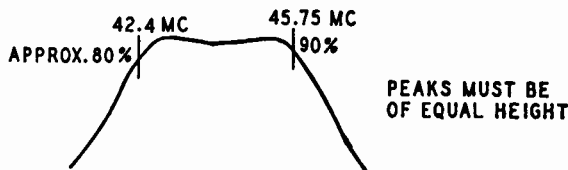

Fig. 4—2nd Pix I-F Response
1. Connect sweep output to 2nd I-F grid (pin #1-V4), oscilloscope to Test Point "A". Set output of sweeper so that some output is indicated in oscilloscope. Adjust 2nd PIF transformer (T-202) primary (bottom) and secondary (top) simultaneously for maximum output and symmetry. Readjust sweeper output for 4.0V P-P on oscilloscope. Touch-up to give the waveform shown in figure 4.